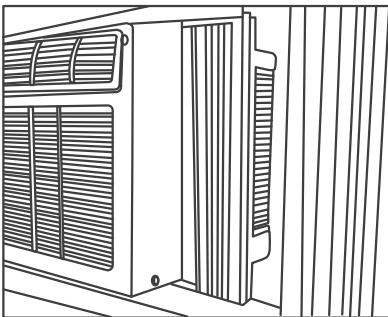
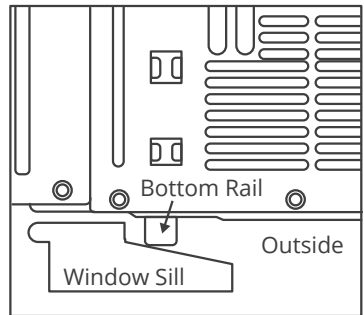

Fig.6
Fig.7
- Place the air conditioner on the sill with the bottom mounting rail against its back edge. Center the air conditioner and close the window securely behind the top mounting rail. The air conditioner should be 3° slightly tilted to the outside area. Use a level, about a 1/3 bubble will be the correct case slant to the outside. (See FIG.6 & FIG.7) (It is suggested to keep a downward angle to let accumulated rain water drain out from the back side of the unit bottom.)